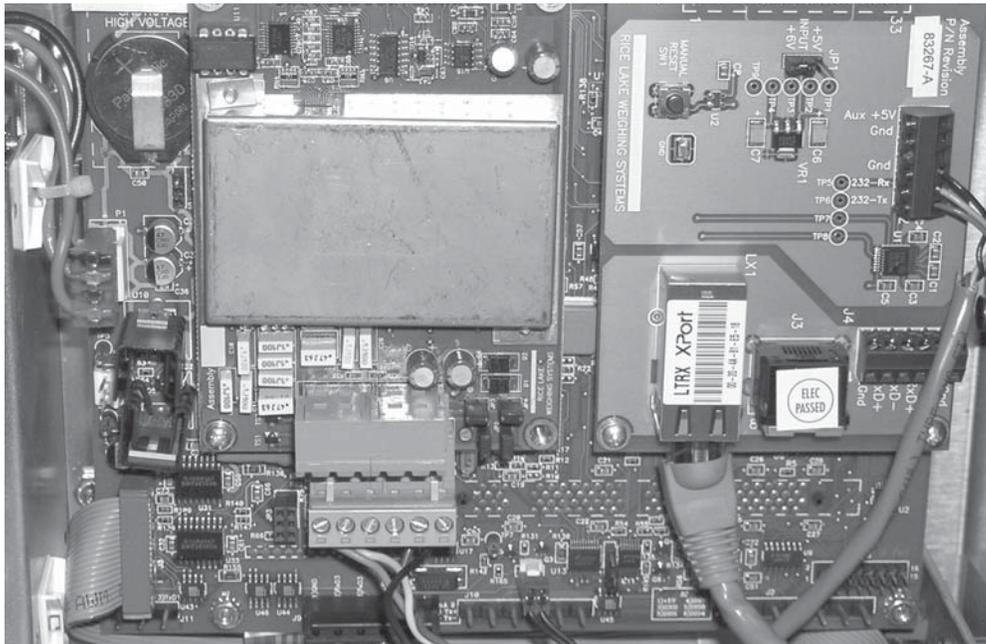

Figure 5-3. Ethernet Card Installation onto 920i CPU Board
- Connection with an RJ-45 connector should be made directly to LX1. See Figure 5-3.